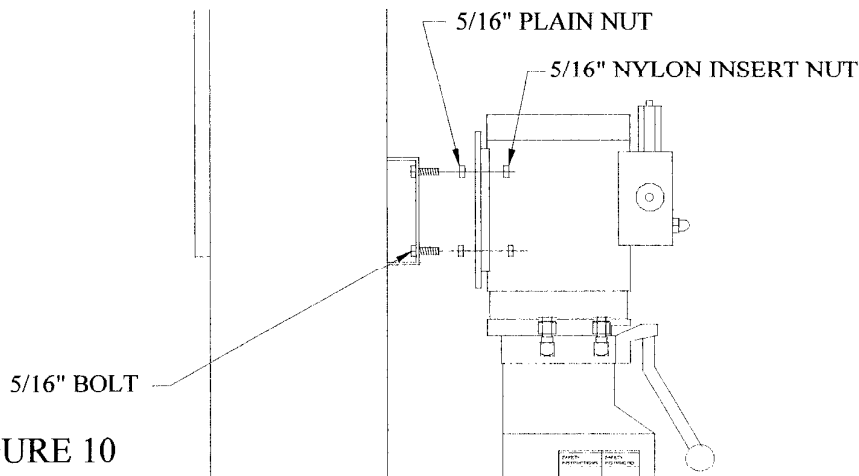

FIGURE 10
22. Refer to Figure 10 below for mounting of the power unit. Locate the power unit mounting bracket on the back of the mainside leg. Attach 5/16" x 1" bolts to the mounting brackets and secure with 5/16" plain nuts. Attach the power unit to these bolts and secure with 5/16" nylon insert nuts.